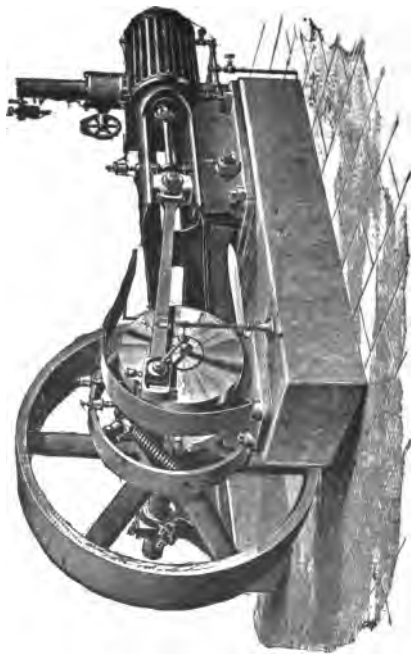

FIG. 48. RUSSELL ENGINE UP TO 11" X 16".
**A.** Fig. 48 shows the design up to and including 11" x 16"; Fig. 49, the 11" x 18" and upwards. The bed is "semi-girder" in type, on all sizes up to 11" x 16"; on larger sizes it is of the so-called Tangye type, with locomotive girders, cylinder overhung; guides bored; crosshead pin in centre of length of the head; crosshead clamped to the piston rod; connecting rod with solid ends and wedge adjustments; crank of disc type. The governor (see Figs. 50 and 52) shifts the eccentric across the shaft, thus altering eccentric throw and valve travel. The lead is constant for all points of cut-off. There are two sets of governor weights pivoted near the case-rim. Their outward